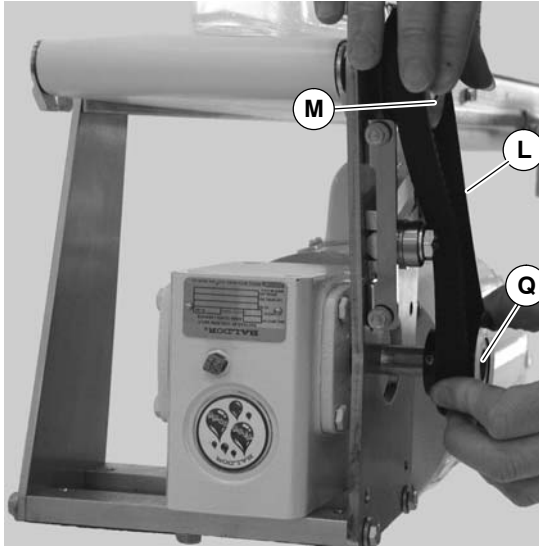

Figure 42
8. Wrap timing belt (L of Figure 42) around drive pulley (Q) and driven pulley (M). Attach drive pulley (Q) to gear reducer shaft.